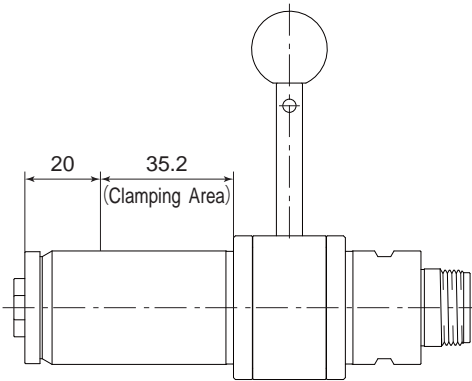

Fig. 15
(1) When mounting a Spindle, refer to the Clamping Area etched on the Spindle (Fig. 15).